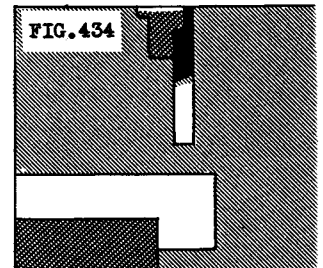

FIG. 434
1. Move the ram to bring the tool directly above the work (Fig. 434).